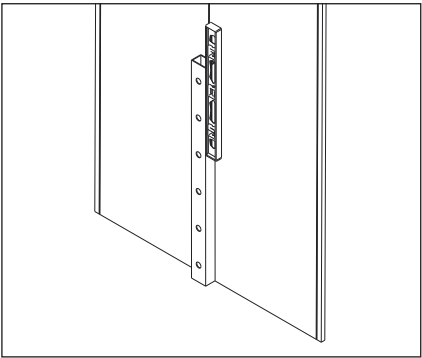
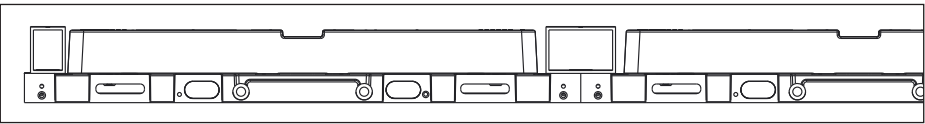

Figure 4: Verify Plumb First Tube
Figure 5: Tube on Panel (Top View)
4. Attach the tube (center tube first) and use a large level to ensure the side of the tube is level. Refer to **Figure 4**. Tubes will recess $\frac{1}{4}$ " from both the top and bottom of the display. Refer to **Figure 5**.